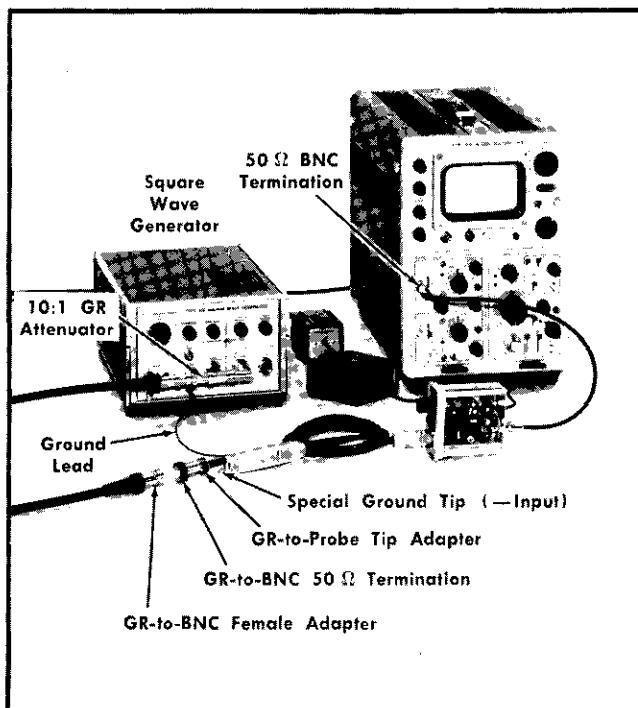

Fig. 6-26. Equipment setup for transient response adjustment, step 6.
a. The preliminary control settings apply. The equipment setup appears in Fig. 6-26.
b. Check that the special ground tip remains on the Probe — Input tip. Connect the ground lead from the Probe ground lug to the chassis of the Type 106 Square-Wave Generator (item 5). Set the Square-Wave Generator controls as follows: